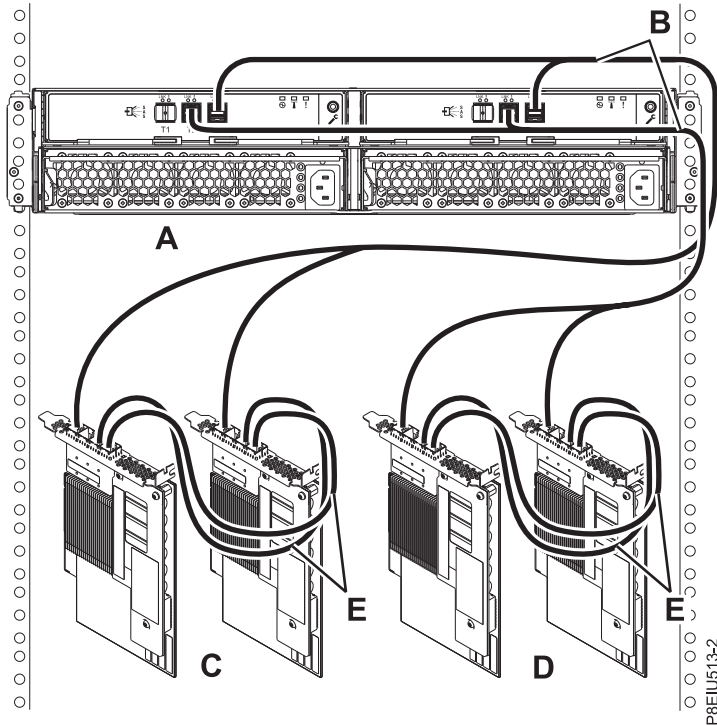

Figure 19. Mode 2 connection of one ESLS by using X12 cables to two FC EJ0L SAS adapter pairs or two FC EJ14 SAS adapter pairs with AA cables
19. Complete a mode 2 connection of one enclosure (A) by using X12 cables (B) to two FC EJ0L SAS adapter pairs or two FC EJ14 SAS adapter pairs (C, D) with AA cables (E), as shown in Figure 19 on page 20, and then continue with “Connecting cables, power cords, and installing covers” on page 22.